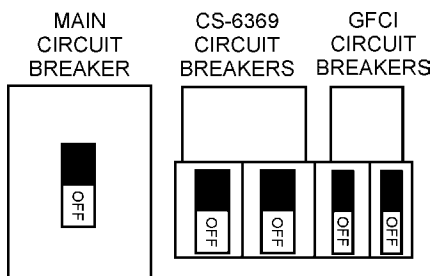

Figure 50. Main, GFCI and Load Circuit Breakers Off
- Place both the **MAIN, GFCI and LOAD** circuit breakers as shown in Figure 50 to the **OFF** position..
- To shut-down the engine in the event of an emergency, switch the **MAIN, GFCI and LOAD** (Figure 50) circuit breakers to **OFF** position.